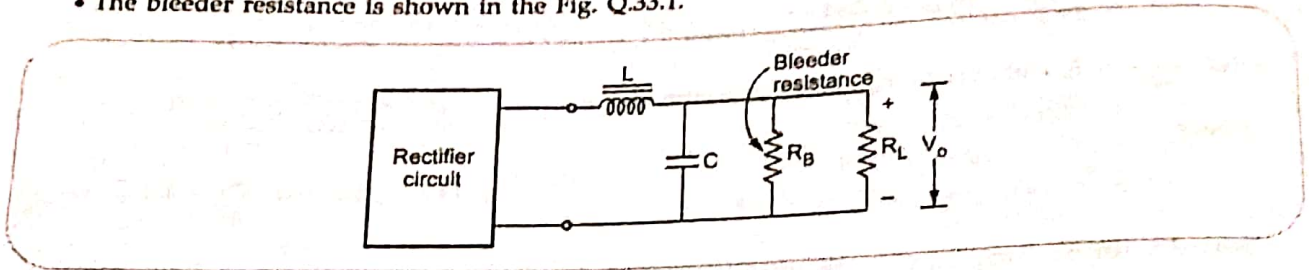

Fig. Q.33.1 LC filter with bleeder resistance
- The bleeder resistance is shown in the Fig. Q.33.1.